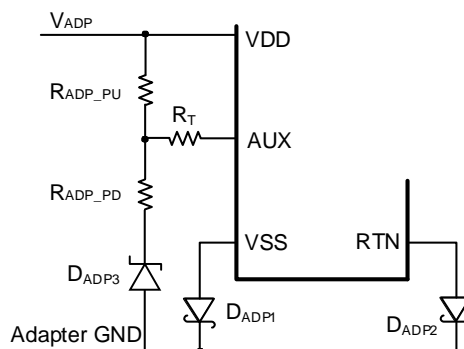

Figure 9: Wall Adapter Detection Circuit
the resistor divider ($R_{ADP_PU} + R_{ADP_PD}$) and the diode (D_{ADP3}) should be selected according to Equation (1) on page 21 (see Figure 9).